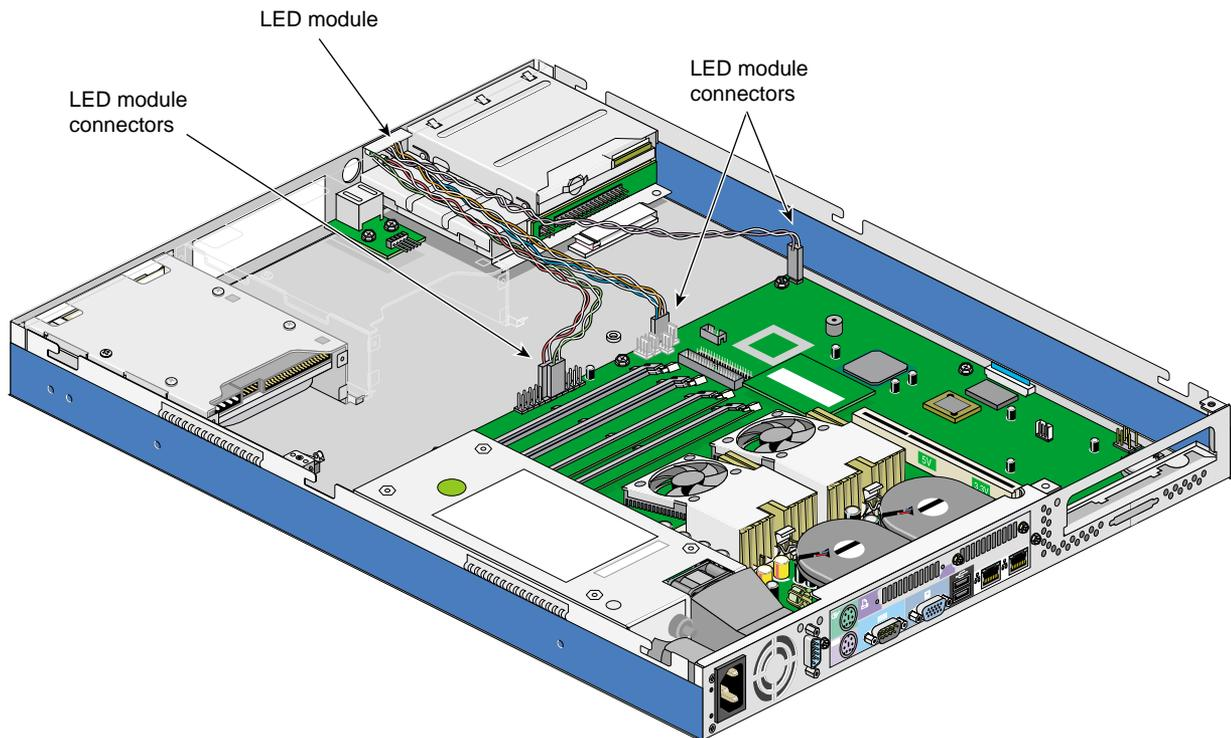

Figure 2-15 Location of the LED Cable Connectors
2. Disconnect all the LED cable connectors from the system board. See Figure 2-15 for the location of the LED cable connectors.
2. Connect all the LED cable connectors to the system board. See Figure 2-15 for the location of the LED cable connectors.